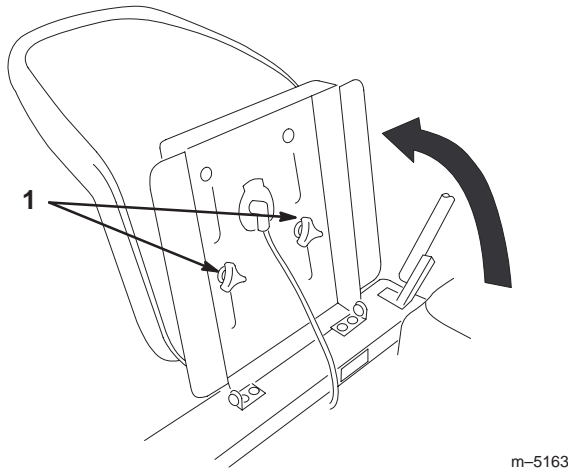

Figure 12
- Raise the seat and loosen the adjustment knobs (Fig. 12).